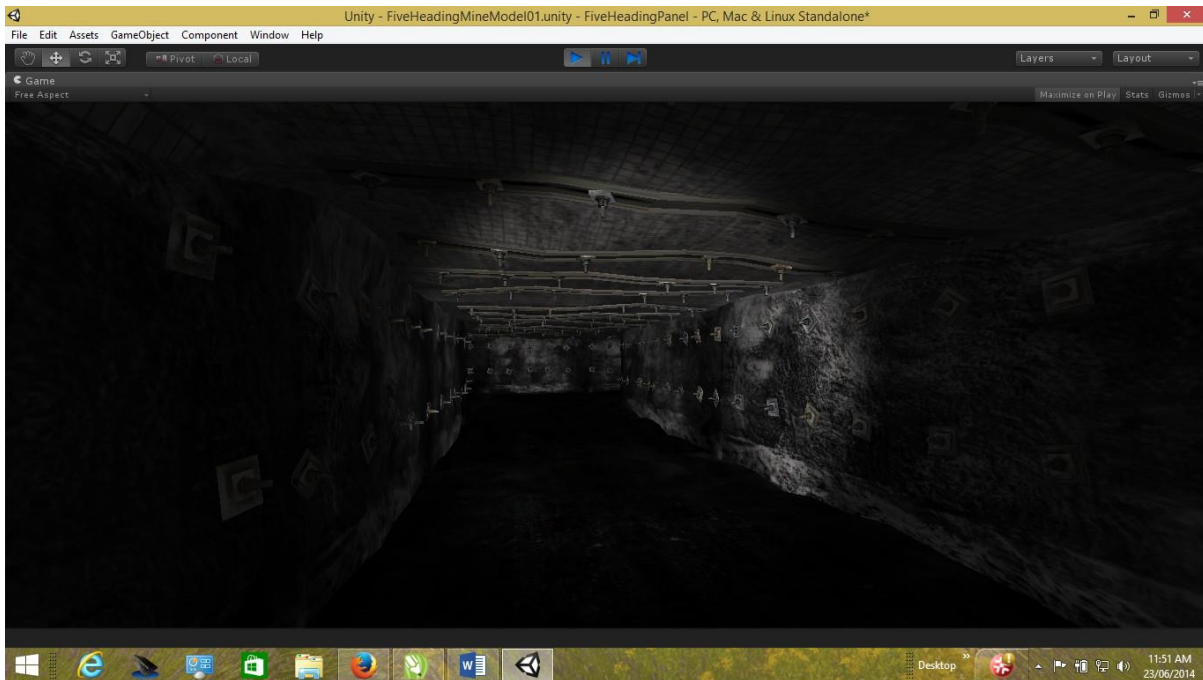

Figure 2. Example loaded mine model image.
- b. Open the file, once loaded, you should have a scene similar to that in Figure 2.